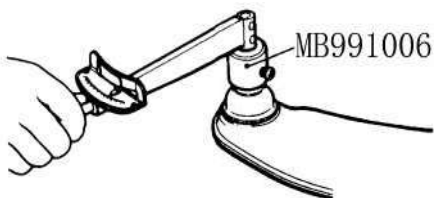

Fig.14A-13
(1)LOWR ARM BALL JOINT ROTATION STARTING TORQUE CHECK(Fig.14A-13)